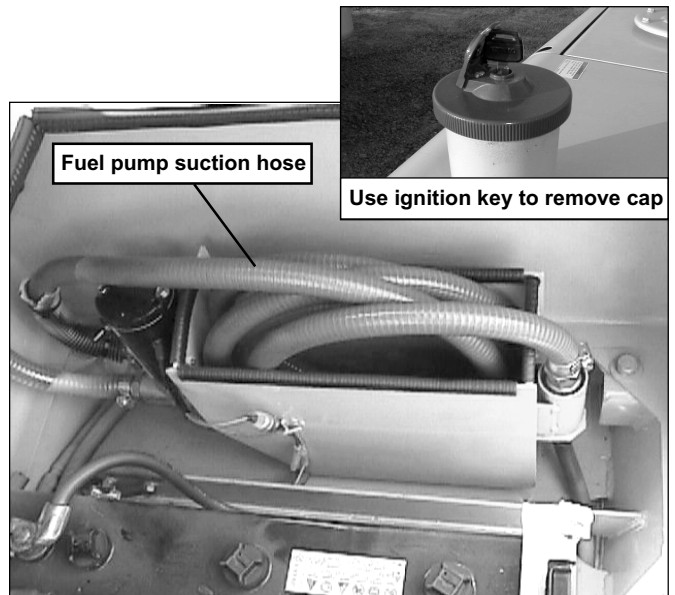

FIGURE 4.15B
- b. Open battery access cover, remove the filter end of the fuel pump suction hose from its storage housing and insert the fuel suction hose into fuel supply reservoir. See Figure 4.15B.